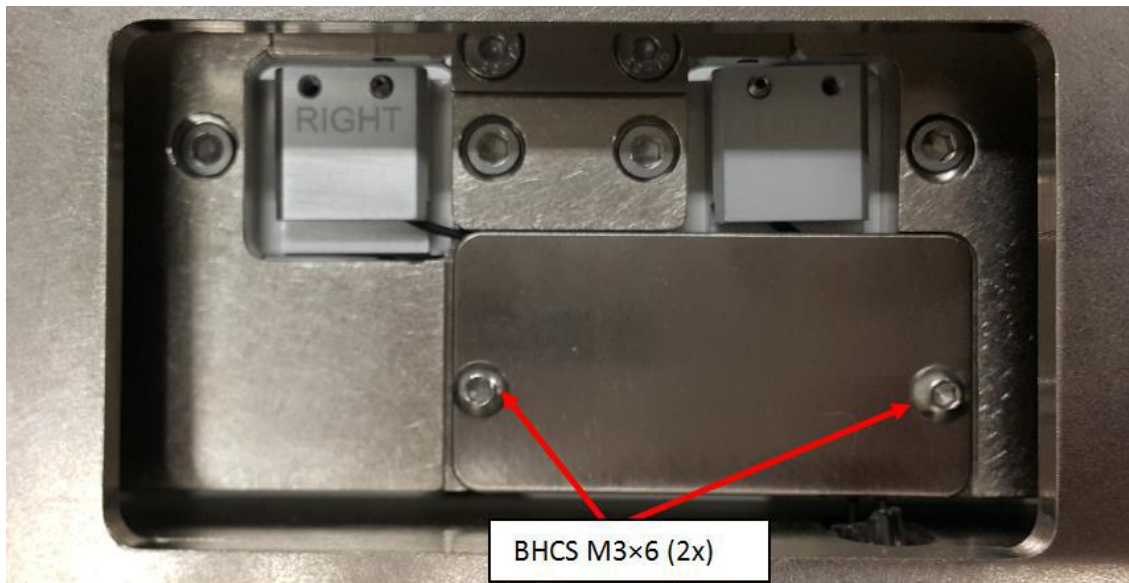

Figure 14 Sensor 4 Receiver
1. For Sensor 4 Receiver, remove BHCS M3×6 (2x) as shown in Figure 14.